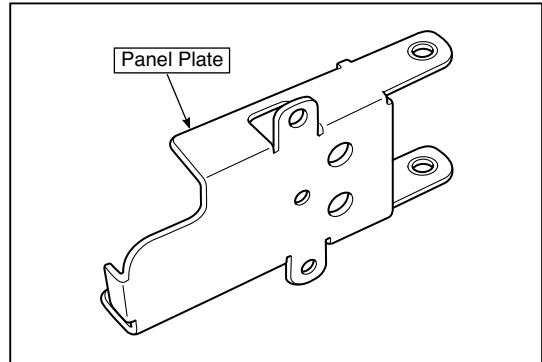

Fig.26
- 2.Remove the Panel Plate shown in the figure 26.